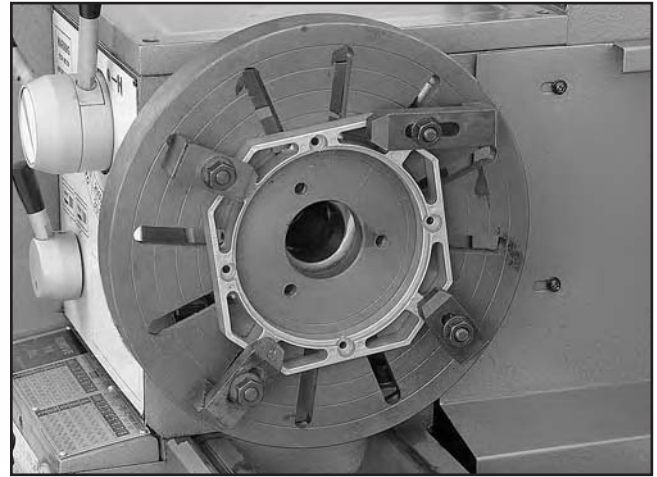

Figure 48. Generic picture of a workpiece clamped to a faceplate.
3. With the help of another person or a workpiece supporting device, position the workpiece onto the faceplate and firmly clamp it in place with a minimum of three independent clamping devices (see **Figure 48** for an example).